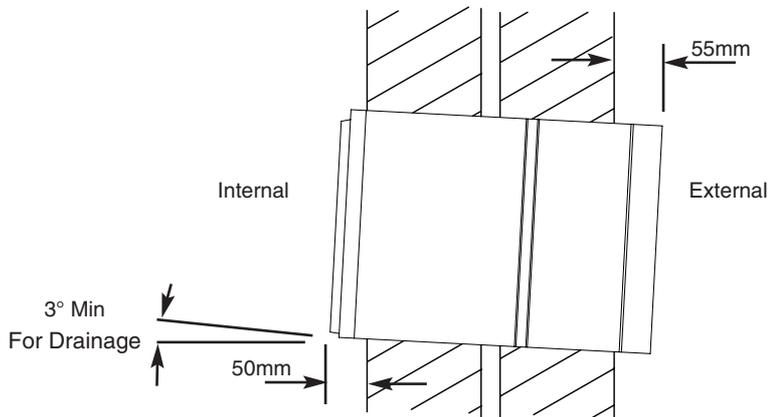

Fig. 6
2. The HR300RW6 requires an overhang internal and external (Fig. 6):